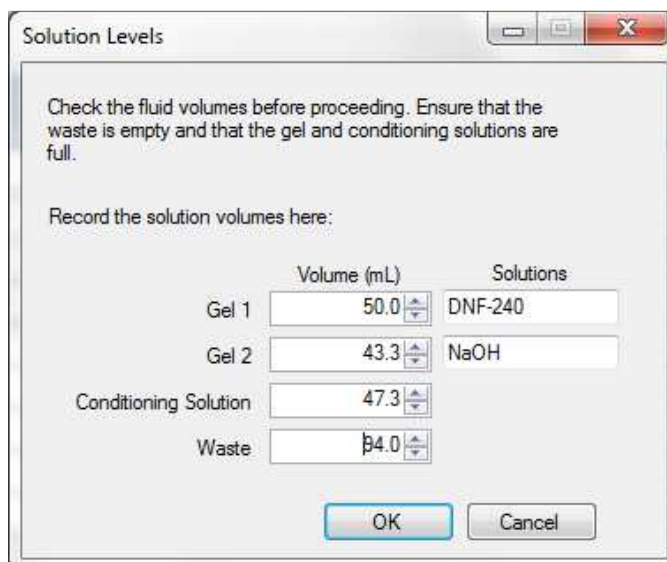

Figure 1. **Solution Levels** menu
- When adding Separation Gel to the instrument, update the solution levels in the *Fragment Analyzer*™ instrument control software. From the Main Menu, select **Utilities – Solution Levels**. A menu will be displayed to enter in the updated fluid levels (Figure 1).
5. When adding fresh 1X Capillary Conditioning Solution to the instrument, update the solution levels in the *Fragment Analyzer*™ instrument control software. From the Main Menu, select **Utilities – Solution Levels**. A menu will be displayed to enter in the updated fluid levels (Figure 1).